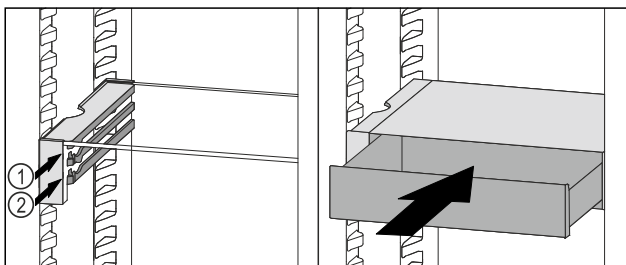

Fig. 108
- Place the VarioSafe drawer behind the stoppers on desired rib Fig. 108 (1) or Fig. 108 (2).